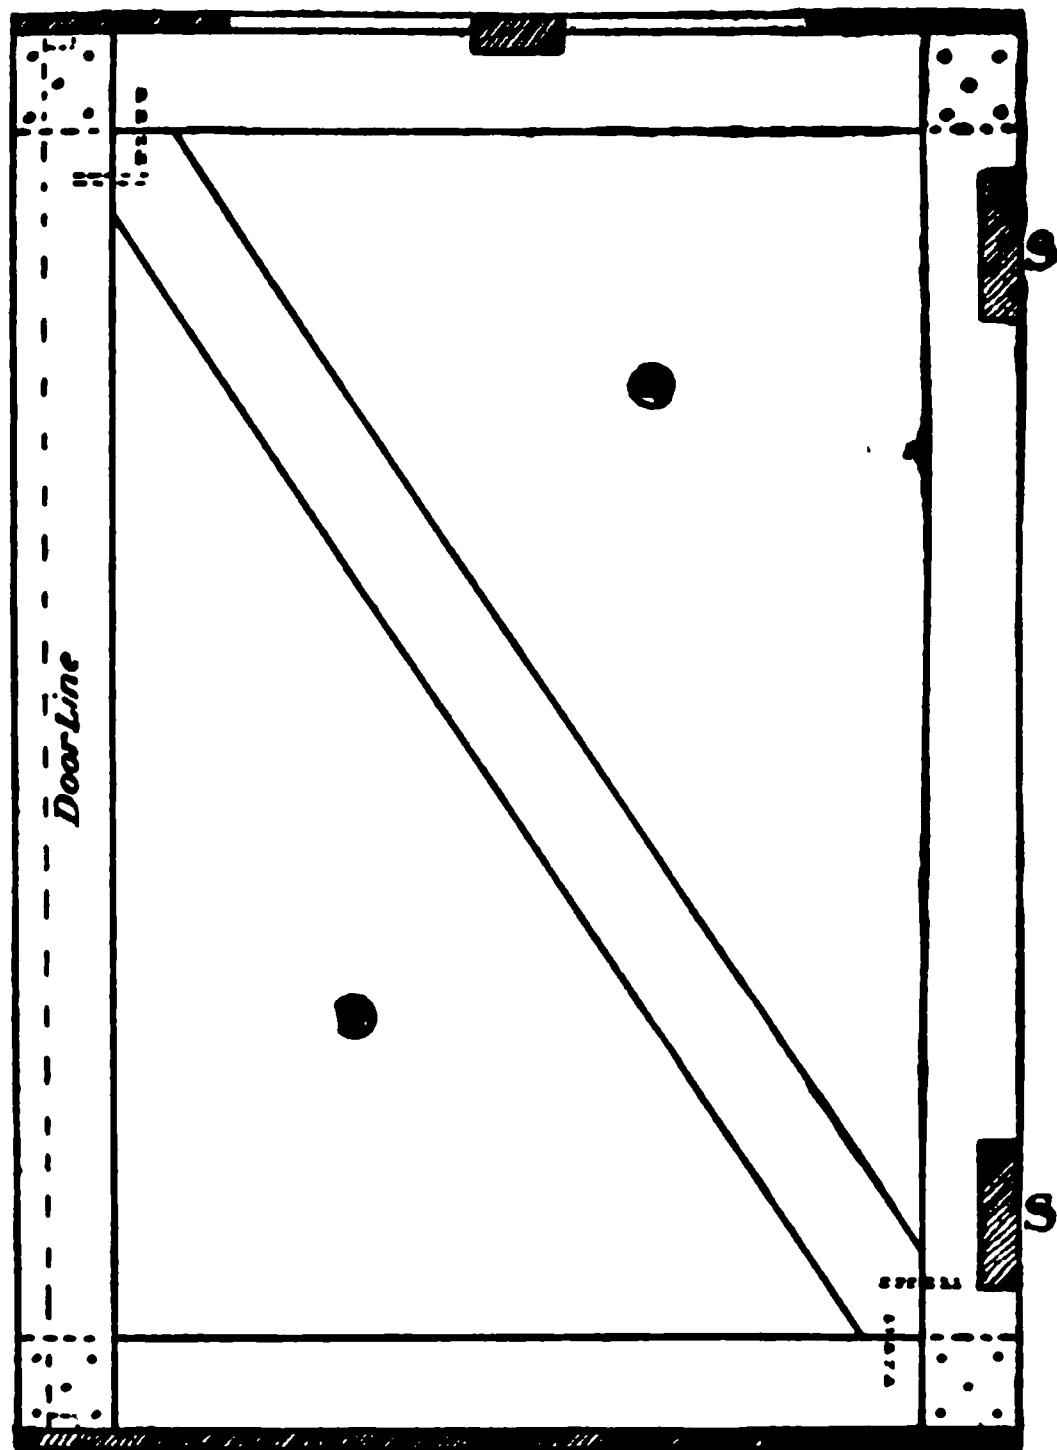

Fig. 36.—Side frame of meat safe.
**T**HE meat safe shown in Figs. 36 and 37 has for its overall measurements : height, 2 ft. 6 in. ; width, 1 ft. 9 in. ; depth, 20 in.